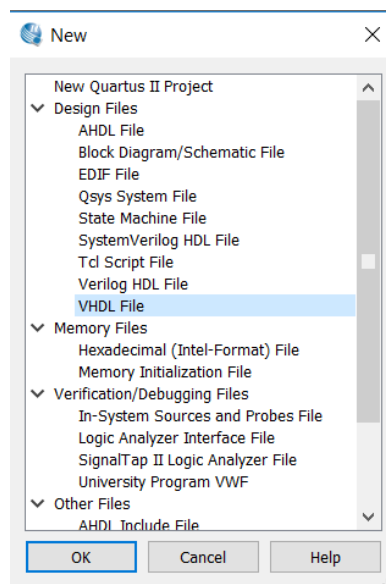

Figure 9. Window view before creating a VHDL file.
1. Click File -> New, then a display will appear as in figure 9. Select or click VHDL file then press OK, so the main layer will appear turns white. This is the screen where we will write the VHDL code.